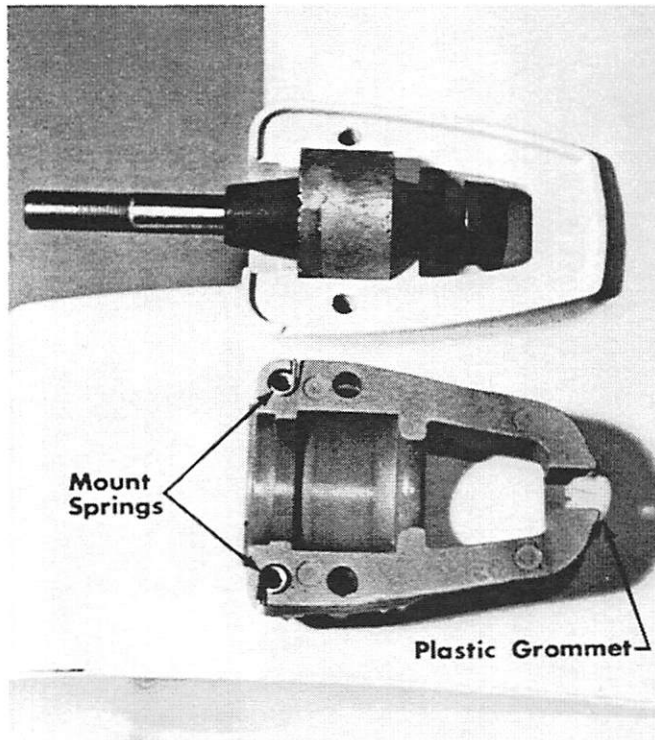

Figure 52A
- b. Install plastic grommet in mount clamp and place springs in front holes of mount clamp. Align ends of springs with recesses of mount clamp. (Figure 52A)